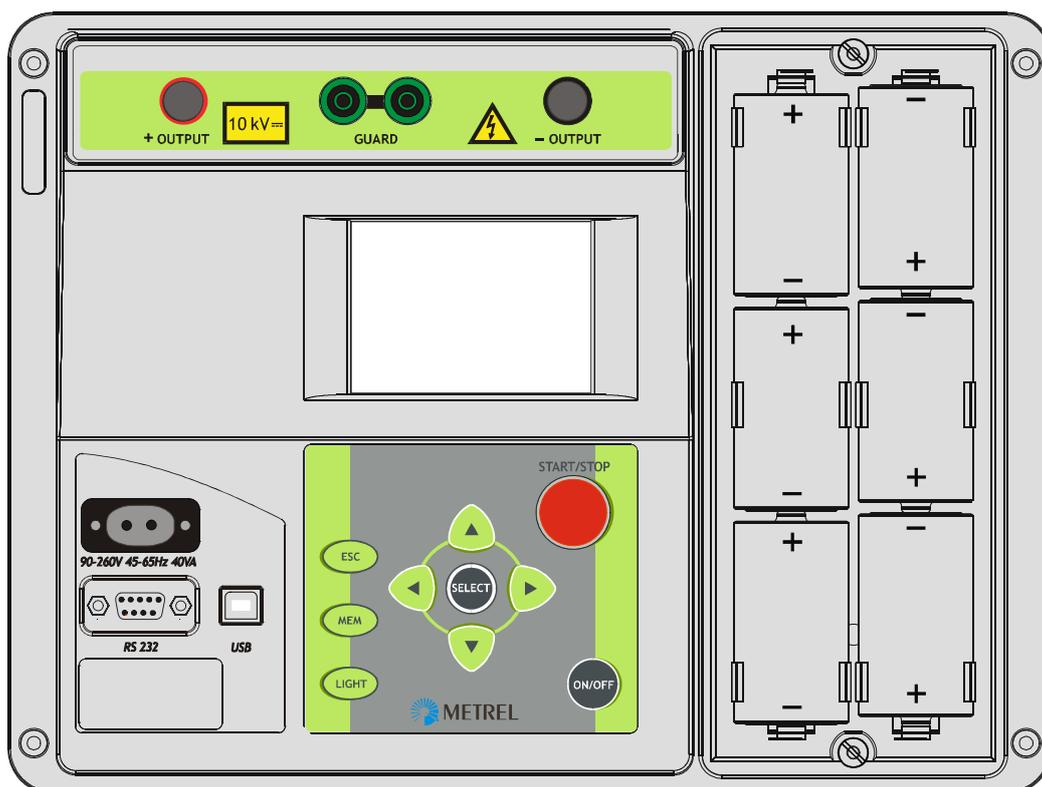

Fig. 31. Correct polarity of inserted batteries
Battery cells are stored in the bottom section of the instrument casing under the battery cover (see **Fig. 31**). When inserting batteries for the first time please note the following:
- ◆ **Insert the batteries correctly (see *Fig. 31*), otherwise the test instrument will not operate!**
Battery cells are stored in the bottom section of the instrument casing under the battery cover (see **Fig. 31**). In case the batteries become defective please note the following:
- ◆ To easy remove batteries from battery holder first remove the middle batteries in each columns and then the others (see the **Fig. 31**).
- ◆ Insert the batteries correctly (see **Fig. 31**), otherwise the test instrument will not operate and battery may be discharged!
Nominal power supply voltage is 7.2 V DC. Use six NiMH with D cells (dimensions: diameter = 33 mm, height = 58 mm). See the **Fig. 31** for correct polarity of the batteries.